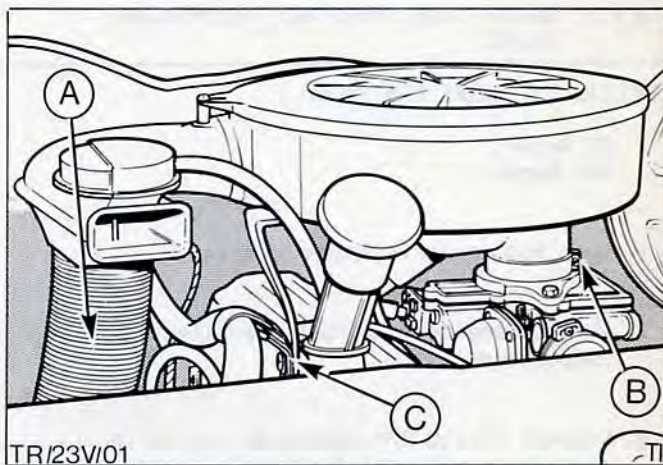

Fig.39. Air cleaner assembly.
3. Remove air cleaner assembly, Fig.39.